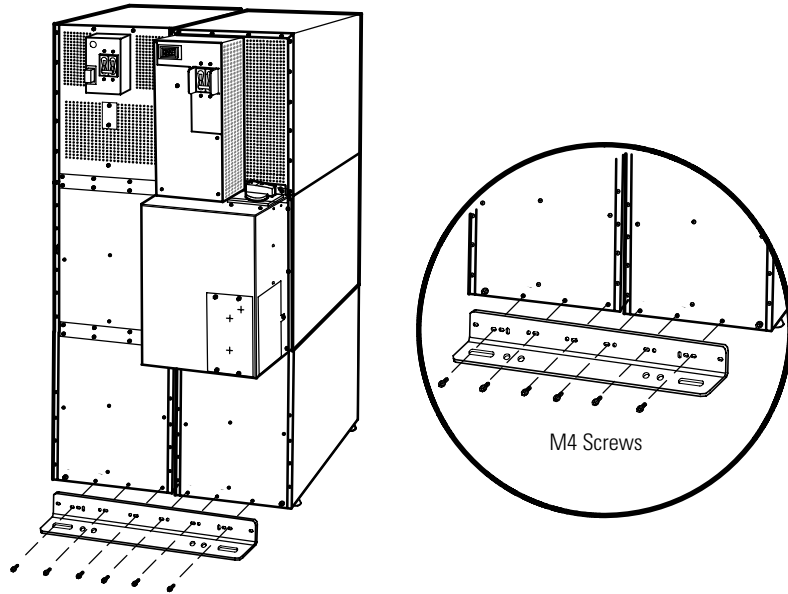

Figure 29. Stabilizing Bracket with Two Cabinets
- For two cabinets, see Figure 29.